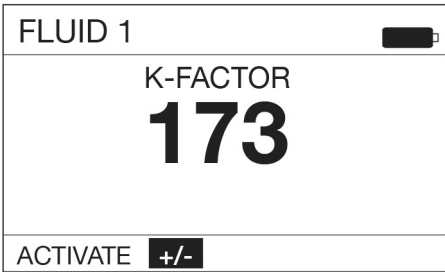

FIG. 65
2. Use the RIGHT ARROW button on the keypad to highlight +/- and press the center ENTER button on the keypad to select the +/- option (FIG. 65).
NOTE: Selecting the GO BACK Function on this screen returns the display to the previous screen (shown in FIG. 65).